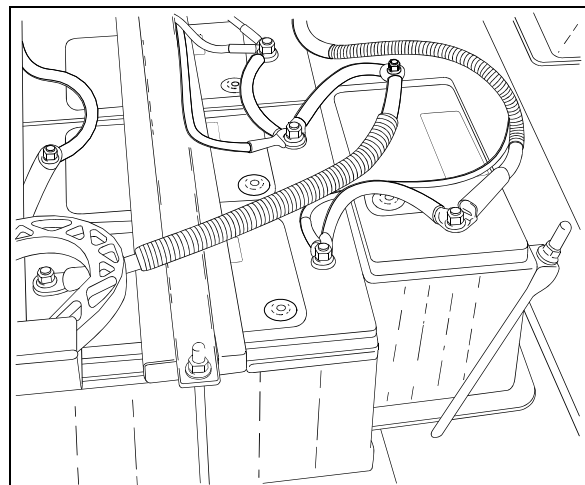

FIGURE 11: BATTERIES
The vehicle is provided with four (4) maintenance-free 12-volt heavy-duty batteries connected in series-parallel (Fig. 11 & 12). The top-mounted negative and positive terminals are tightly sealed to prevent leaks. Water never needs to be added to this type of battery. There are no filler caps in the cover. The battery is sealed, except for small vent holes in the cover. The vents must not be restricted as they allow small amounts of gases produced in the battery to escape. The special chemical composition inside the battery reduces gassing to a very small amount at normal charging voltages. Besides reducing gassing, the special chemistry greatly reduces the possibility of overcharge damage.